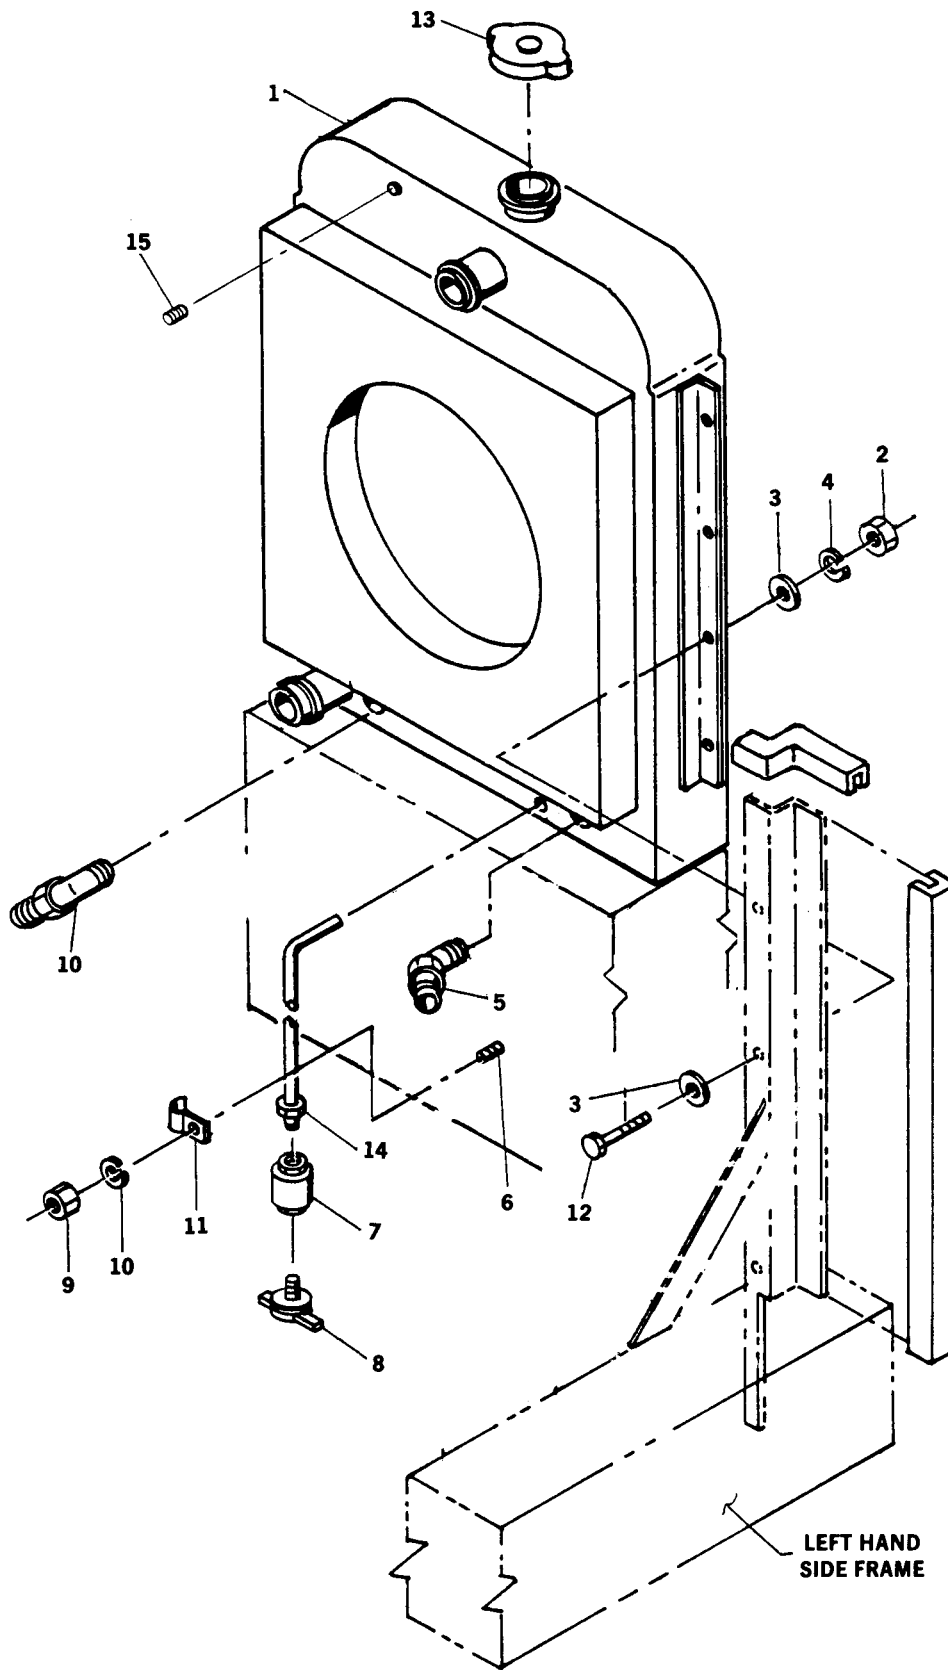

Figure 3-2. Radiator Cooling Installation
a. Coolant shut-off valve to heater should be open to allow complete circulation during cleaning, flushing, and draining. Run engine with radiator covered, if necessary until temperature is up to operating range 160 to 180 degrees F (71 to 82 degrees C). Stop engine, remove radiator cap, (13, figure 3-2), and drain system by opening drain cocks on radiator and engine block.
d. Replace radiator cap (13) and run engine at moderate speed, covering radiator if necessary, so system reaches a temperature of 180 degrees F (82 degrees C) or above, but does not reach boiling point. Allow engine to run at least two hours, or according to recommendations of manufacturer of cleaning compound, at 180 degrees F (82 degrees C). Do not drive vehicle or allow the liquid level in radiator to drop low enough to reduce circulation. Stop engine as often as necessary to prevent boiling.
d. With radiator capon tight, (13, figure 3-2), fill core with water. Turn on air pressure in short blasts to prevent core damage.
- b. Remove radiator cap (13, figure 3-2) open drain cock (8) and drain coolant into 10 gallon container.
- c. Tag and disconnect transmission oil cooler piping from elbows (5).
- e. Remove hex nut (9), lockwasher (10), and clamp (11).
- c. Bend holding prongs to allow radiator cap (13, figure 3-2) to seat snugly on filler neck. Replace cap if gasket or valve spring action is faulty.
Install elbows (5, figure 3-2), coupling (7), and drain cock (8).
- b. With a suitable lifting device, position radiator (1) to frame and install capscrews (12), flat washers (3), lockwashers (4), and hex nuts (2).
- c. Install clamp (11), lockwasher (10), and hex nut (9) on weld stud.
- e. Remove tags and connect transmission oil cooler piping to elbows (5).
- f. Ensure drain cock (8) is closed and fill radiator with recommended antifreeze solution. Install radiator cap (13). Run engine until operating temperatures reached. Coolant level will fall as thermostat opens.